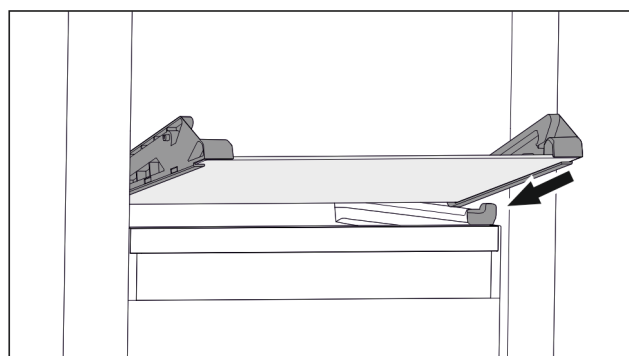

Fig. 64 Tilting drawer glass shelf
- ▶ Position glass shelf at an angle behind the stoppers. (see Fig. 64)